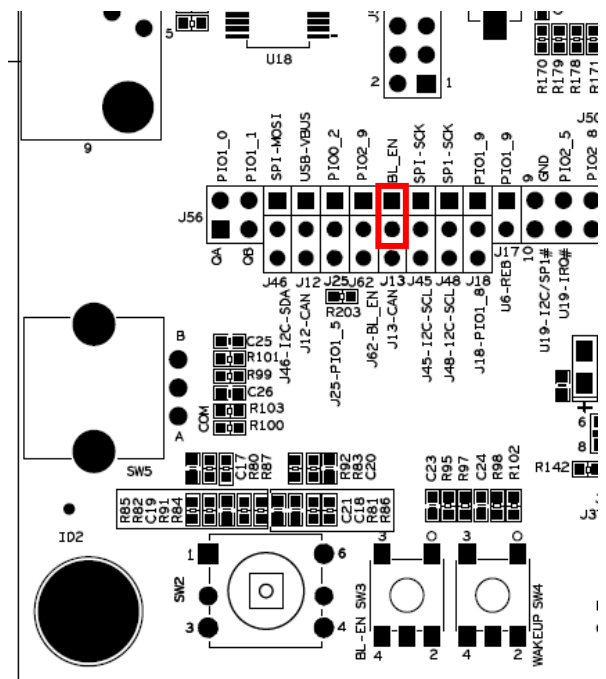

Figure 22 – Jumper Setting: Enable ISP via USB-to-UART mode, J13
- SW3 button – jumper described in section 4.6.1. You also need to make sure that the BL_EN signal is connected to GPIO_24-BL_EN signal, see section 4.1.1.1 and Figure 22.
The BL_EN signal must be connected to GPIO_24-BL_EN signal. This is accomplished by inserting a jumper in J13, pin 1-2 (schematic page 5). See Figure 22 for details.
See Figure 22 on page 28 for J13 settings (schematic page 5). A jumper must be inserted in J13, pin 1-2 in order to connect the signal from SW3 to GPIO_24-BL_EN (which is the bootloader enable pin for most LPC1xxx MCU:s).